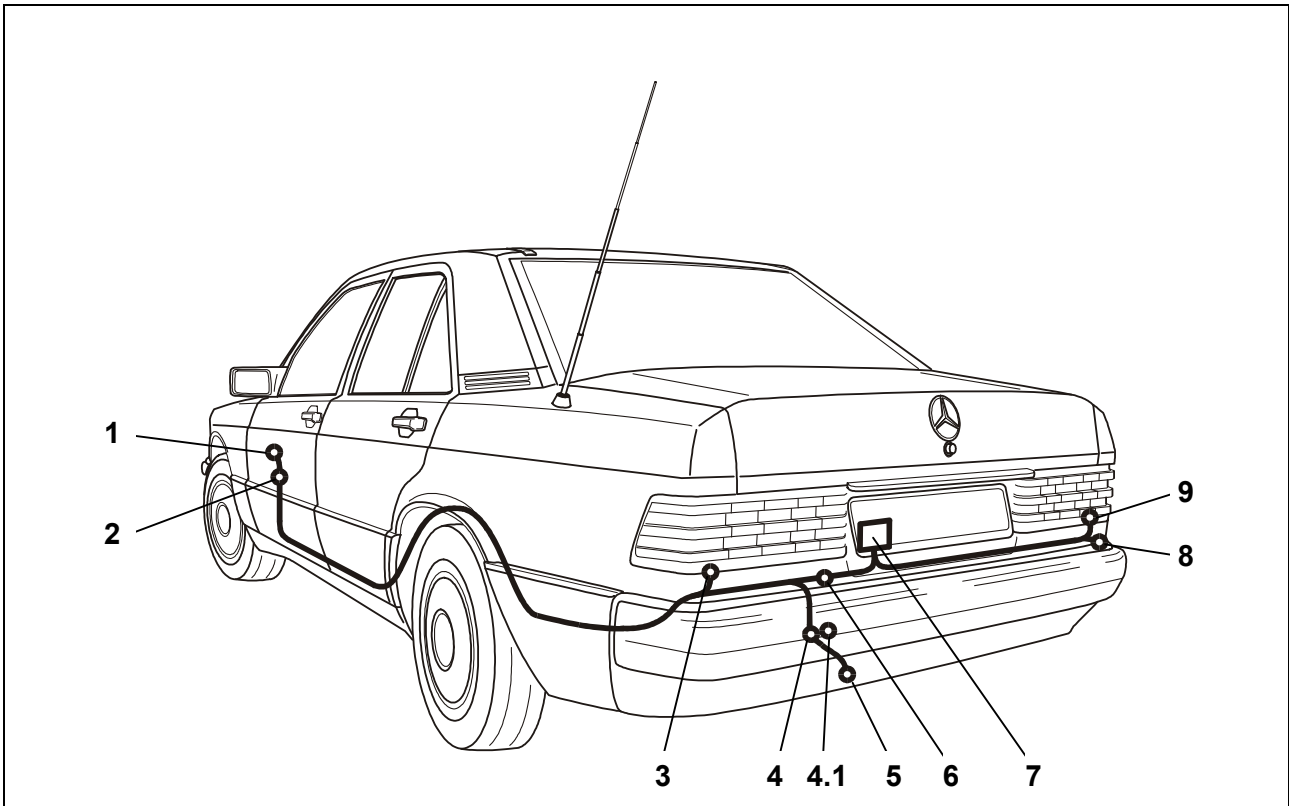

Fig. 1: Installation overview
4. Bore a 19 mm hole for the cable leadthrough at a suitable point in the spare wheel well (Fig. 1/4).
5. Starting in the luggage trunk, lead the socket end of the cable through the cable leadthrough (Fig. 1/4) to the outside to the socket holder plate (Fig. 1/5).
6. Insert the rubber grommet into the cable leadthrough (Fig. 1/4).
7. Bore an additional 8 mm hole for the cable leadthrough of the 13 pin cable set at a suitable point in the spare wheel well (Fig. 1/4.1).
8. Starting in the luggage trunk, lead the socket end of the cable through the cable leadthrough (Fig. 1/4.1) to the outside to the socket holder plate (Fig. 1/5).
9. Insert the rubber grommet into the cable leadthrough (Fig. 1/4.1).
10. Fit the socket gasket and connect the cable harness to the socket housing in accordance with the *pin assignment plan* (Fig. 1/5) and push the rubber grommet against the socket.
11. Screw the socket onto the holder plate (Fig. 1/5) using the supplied screws and nuts.